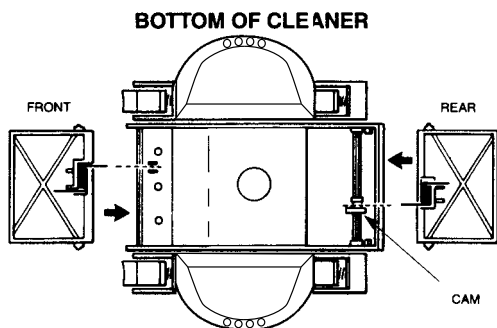

Figure 12
- b) You will notice that your replacement flaps look similar but are marked “Front” and “Rear” on the flap. **Because the springs in the flaps are different, it is absolutely necessary to install the proper flap in the front and rear of the unit.** Failure to do so will result in unsatisfactory performance of your Cleaner. When installing the front flap, be sure that the extended leg of the spring is inserted into the notch on the front of the lower body (see Figure 12). Push the flap in place. You will actually feel and hear a snap when the flap is in place. Fold the flap in towards the bottom of the Cleaner. You will feel some resistance at this point (that is normal). As the flap snaps into its normal position, you will feel the spring action and notice that the front flap is now in its normal operating position.
When installing the rear flap, the extended leg of the spring must fit against one of the flat surfaces of the cam (see Figure 12).